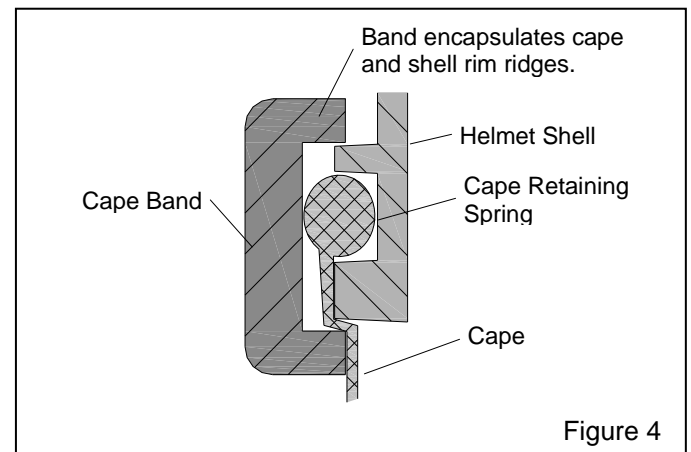

Figure 4
9.4.1 To ensure correct reattachment of the cape and attachment band, refer to the cross section in Figure 4. Note that the cape retaining spring is between the helmet retaining grooves, and the band extends over both rims.
9.4.5 Install the cape by stretching it over the lower helmet rim, so the cape spring rests between the ridges as shown in Figure 4. Position the cape so the back seam aligns with the center of the back of the helmet.
9.4.6 Place the attachment band over the cape as shown in Figure 4. When correctly positioned, the buckle is on the window hinge side of the helmet, and the tensioning strip points toward the front.